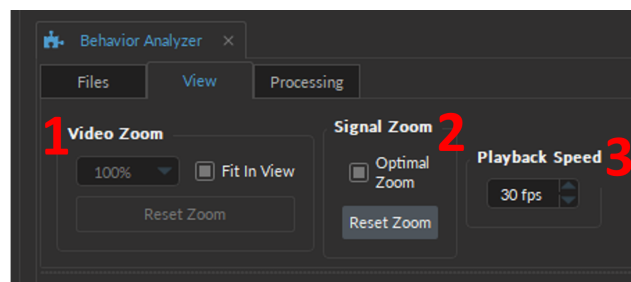

Figure 14.5: Behavior Analyzer, View tab
The **View** tab (Fig. 14.5) sets the visualization parameters for the **Video View** and the **Signal View**. The following parameters are included within the tab:
- The **Video Zoom** (Fig. 14.5, 1) sets the image magnification factor.
- The **Signal Zoom** (Fig. 14.5, 2)
- The **Playback Speed** (Fig. 14.5, 3) sets the frame rate (in FPS) that the video and signal data will be run once the user selects **Play** from the **Video View**.